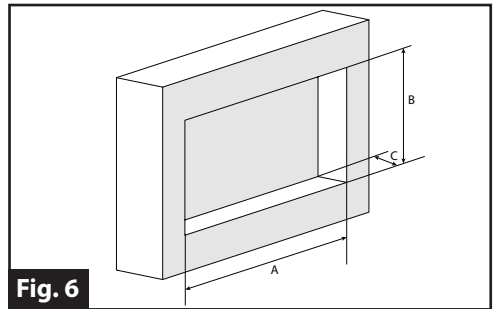

Fig. 6
- Mark and cut an opening in the cabinet according to the dimensions outlined in Fig. 6.